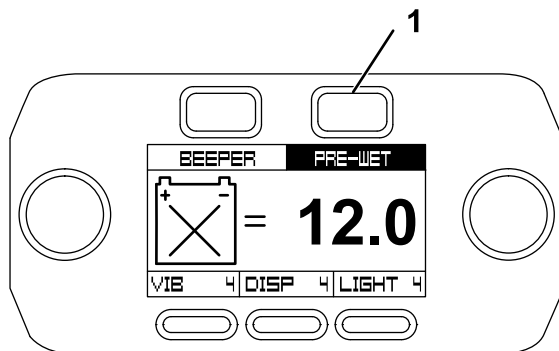

Figure 44
2. Press the Pre-Wet button (Figure 44).